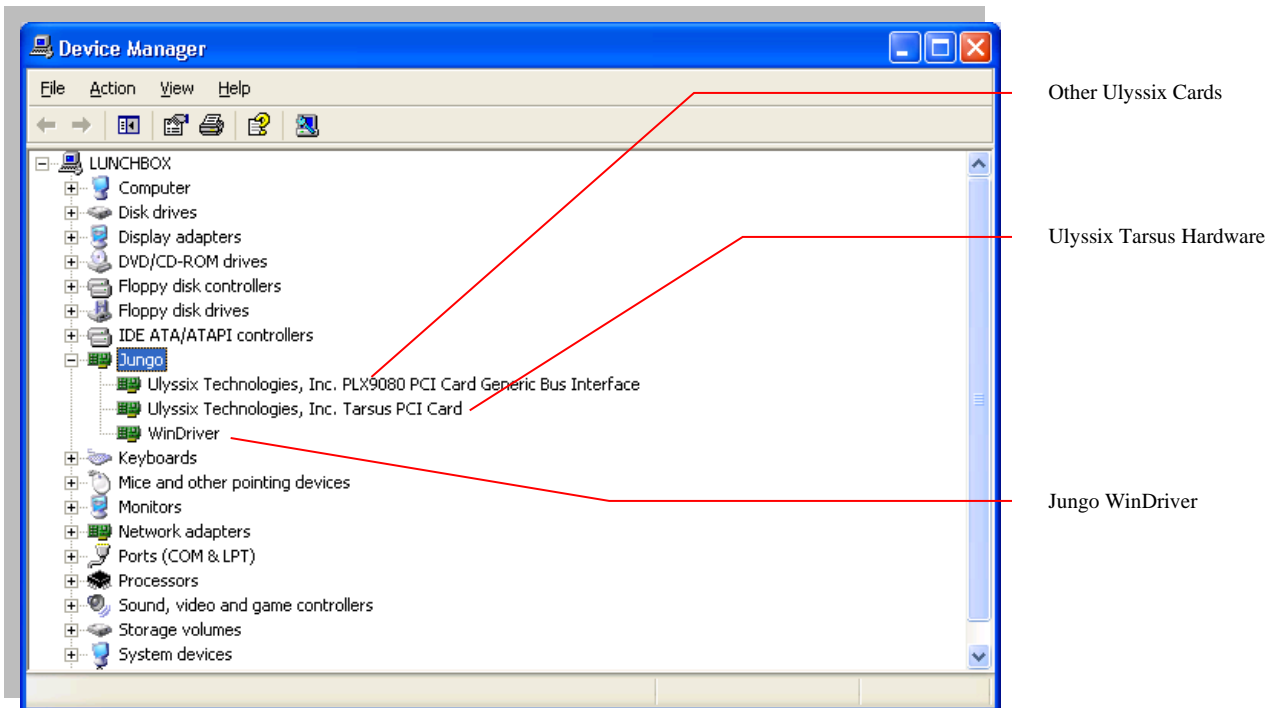

Figure 216 – Device Manager Jungo Driver
5. If your system is running the Jungo driver, open the Jungo folder in the hardware list. The display should look like **Figure 216 – Device Manager Jungo Driver**.